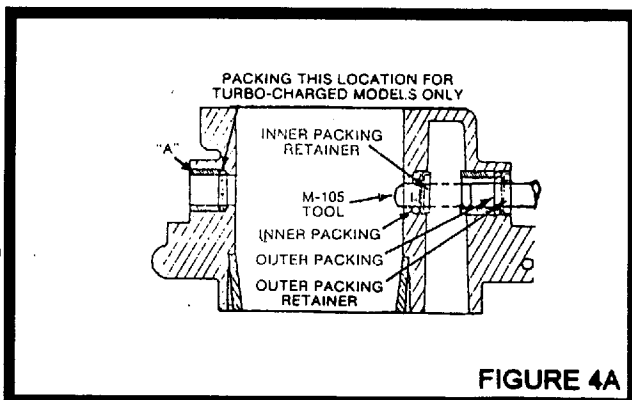

FIGURE 4A
- 42) Install inner throttle shaft packing (78) and retainer (79) onto tool M-105A and then hold in location with pliers as shown in Figure 6. Insert tool M-105 in shaft hole and then thru M-105A and drive tool flush with face of casting. See Figure 4A.
- 44) Carburetors used on turbo-charged engines use a packing "O" ring on the opposite end of shaft. It can be inserted at this time in the cavity at the base of the bushing counter bore by squeezing the "O" ring when inserting in bushing. Push "O" ring thru the bushing with appropriate tool until it snaps into cavity behind bushing. See Figure 4A. Be careful not to damage seals.